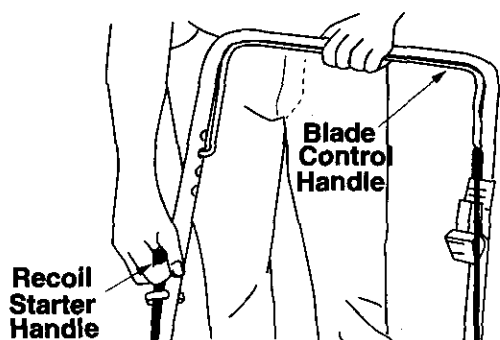

Figure 9
4. Standing behind the unit, depress the blade control handle and hold it against the upper handle as shown. See Figure 9.